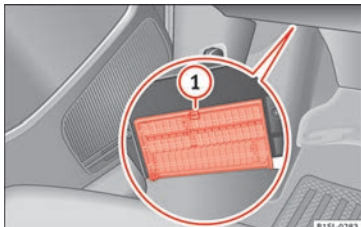

Fig. 82 Below the driver side dash panel: fuse box cover.
- *Opening:* Press the unlock button » **Fig. 82** until it is possible to open the cover. Fold the cover down.